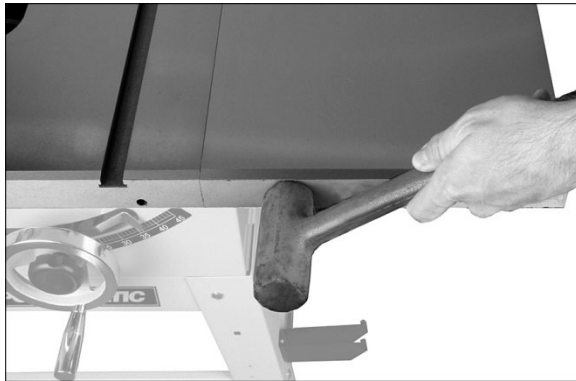

Figure 11
3. The front edge of table extensions must be flush with front edge of saw table. If needed, tap front edge of extension with a rubber mallet to make flush. See Figure 11.